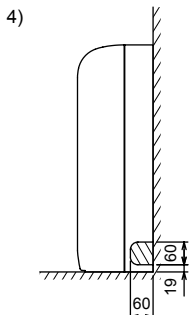

Fig. 3-10
4) For right piping (Fig. 3-10)